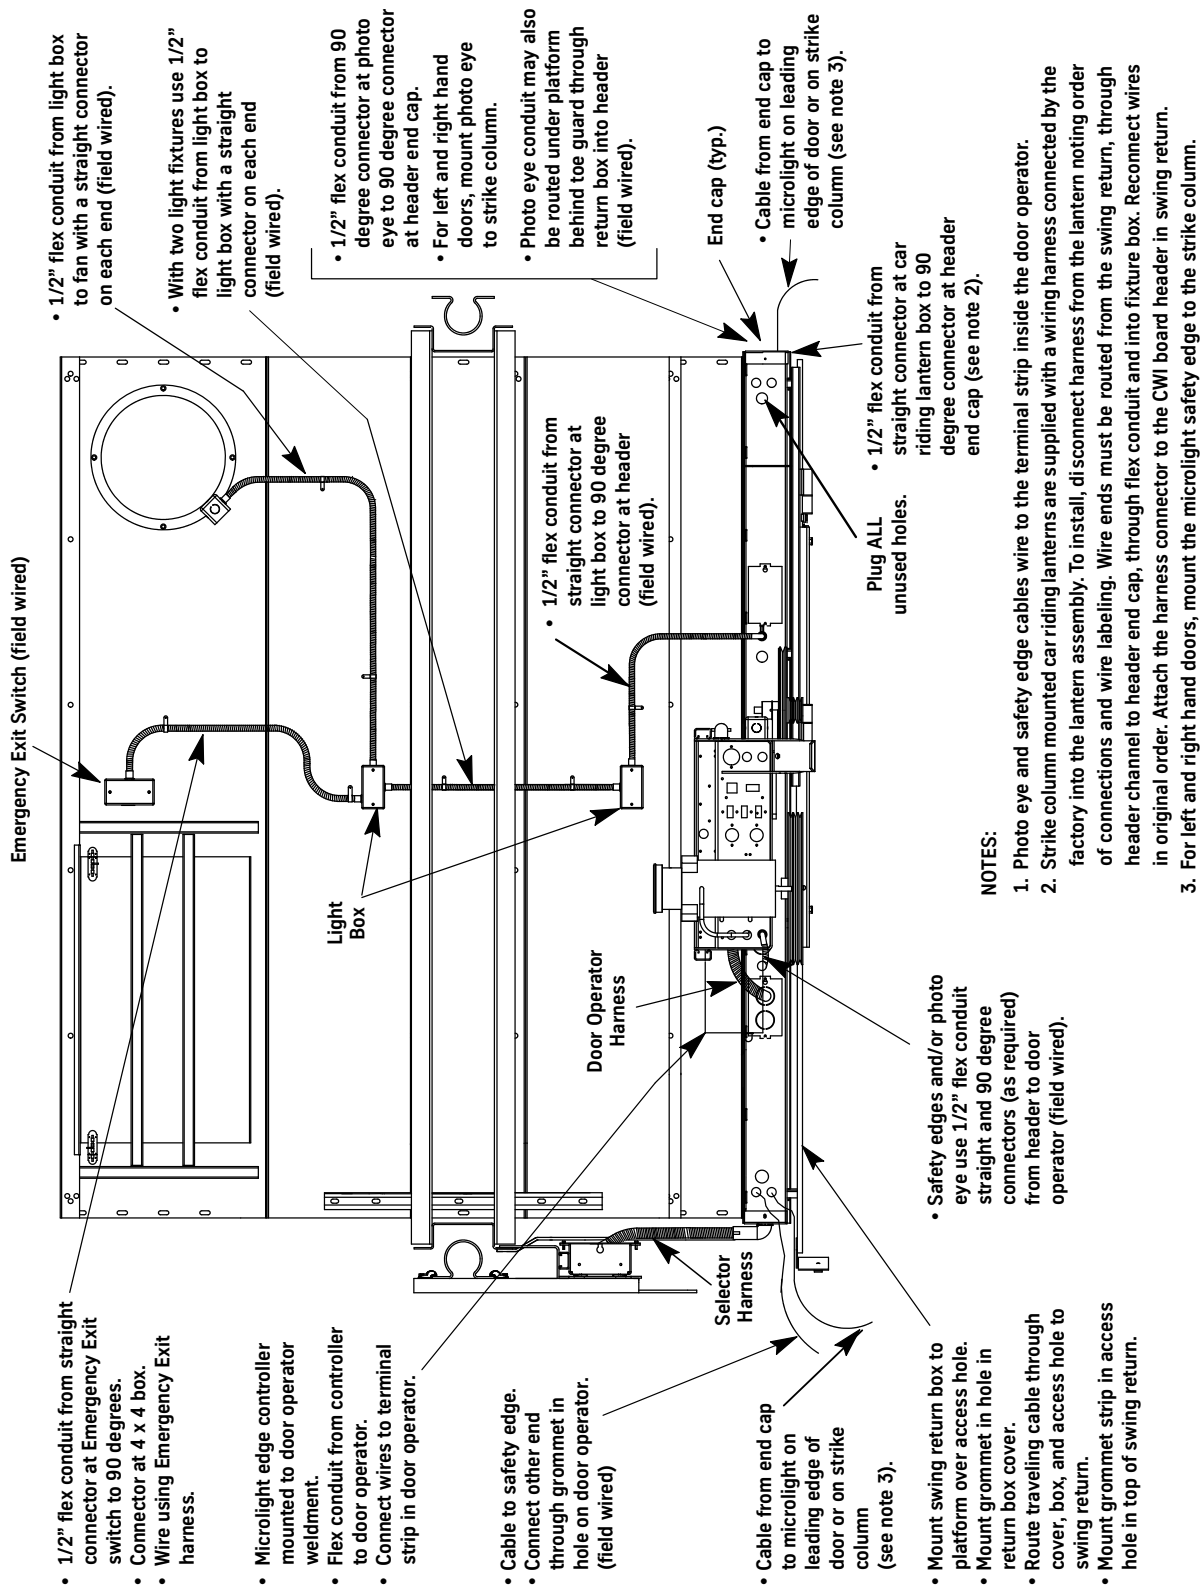

Figure 11 - Typical Car Top Wiring (shown with Vertical Express HD-11 Door Operator)
1. Insert the end of the selector harness (with the MTA connectors) through the end of the header and into the main swing return. Connect the flex conduit to the car header end cap, or where the selector harness enters the car. Leave the wires disconnected in the swing return. See Figure 11 on page 24 or Figure 12 on page 25 for this and all additional steps in this procedure.